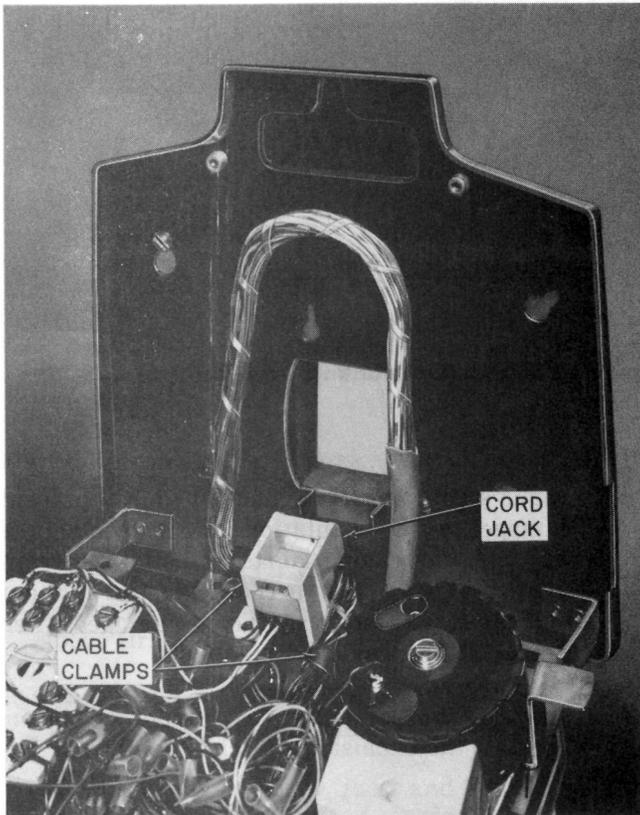
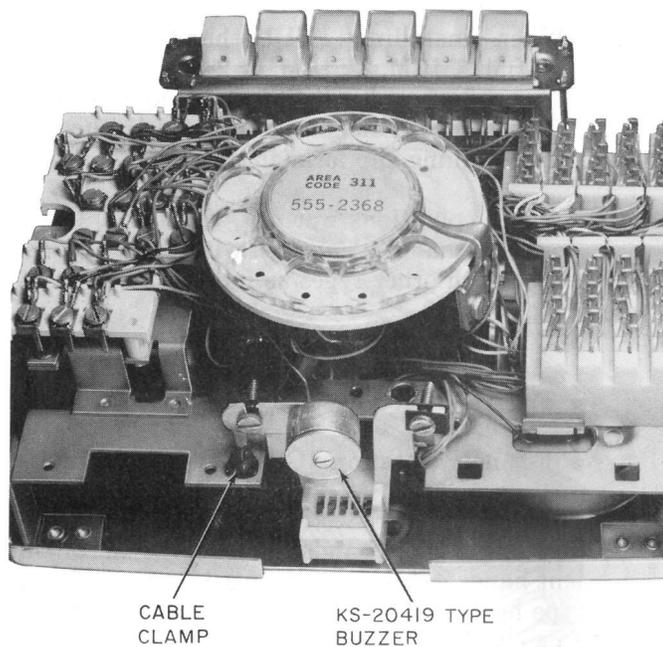

Fig. 8—Inside Wiring Cable, Exposed Wiring (Original Version)
Fig. 18—KS-20419 Type Buzzer Mounted on 851-Type Telephone Set
to within 2 inches of cable entrance into set (Fig. 8).
- (2) Remove cable clamps. Pinch legs of clamp from front of chassis (Fig. 18).
- (3) Slip one of the clamps provided with set around conductors approximately 9 inches from end of sheath. Add second clamp 2 inches above first.
- (4) Form slack loop as shown in Fig. 8 or 9 and install first clamp in hole to left of cord jack.
- (5) Route cable below jack and install second clamp in hole to left of ringer.
- (6) Twist ends of conductors together and feed through opening between dial, ringer, and connecting blocks.
3.06 On all sets except CM codes, if the set is served by the connector equipped end of an A25B connector cable, a D-180375 Kit of Parts must be used to obtain raw-ended conductors for termination. The mated connector and plug should be located as shown in Fig. 10. Check that connector and plug do not interfere with operation of line switch. Cable is routed and fastened in same manner as IW cable (Fig. 8 and 9).
3.16 Buzzer: The KS-20419L1 or L2 buzzer is mounted on an insulated bracket below the dial (Fig. 18). If required, an additional KS-20419 type may be added or the existing KS-20419 type may be replaced by the KS-8109L2 buzzer (14-30 volt ac or dc) which would be mounted using both screws.